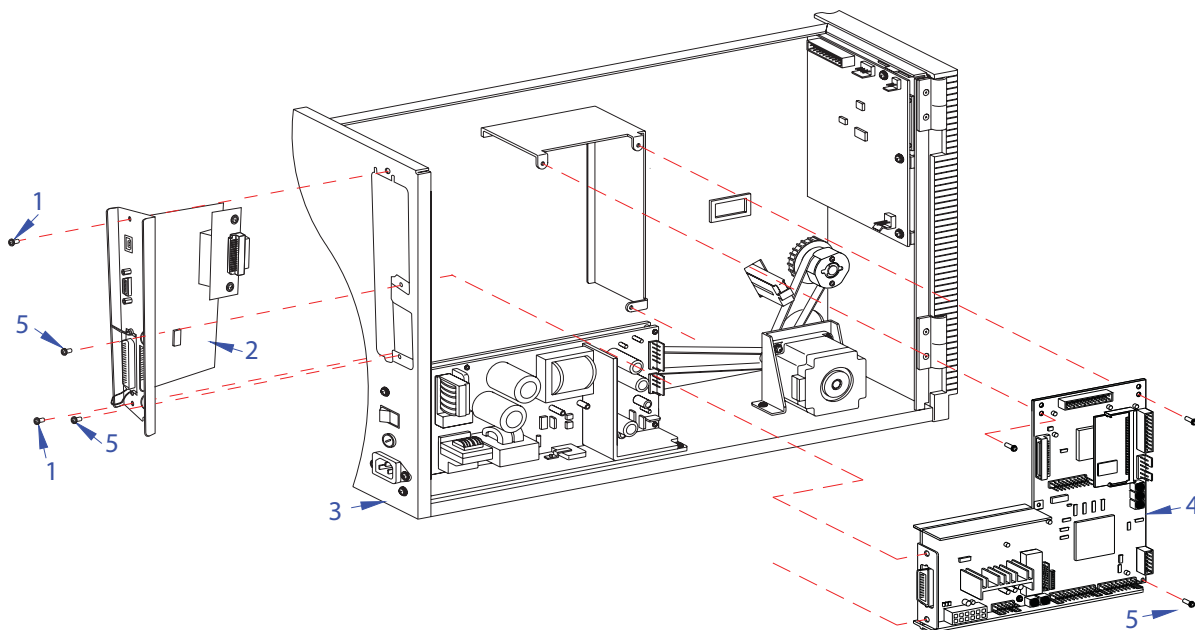

Figure 7-7, Main Circuit Board Replacement
- 3 Remove two screws (1, Figure 7-7) securing interface board (2) to rear cover (3). Withdraw board (2).
- 4 Disconnect all wiring harnesses from defective main board (4).
- 5 Remove five screws (5) securing defective main board (4) to the printer. Lift away defective main board (4).